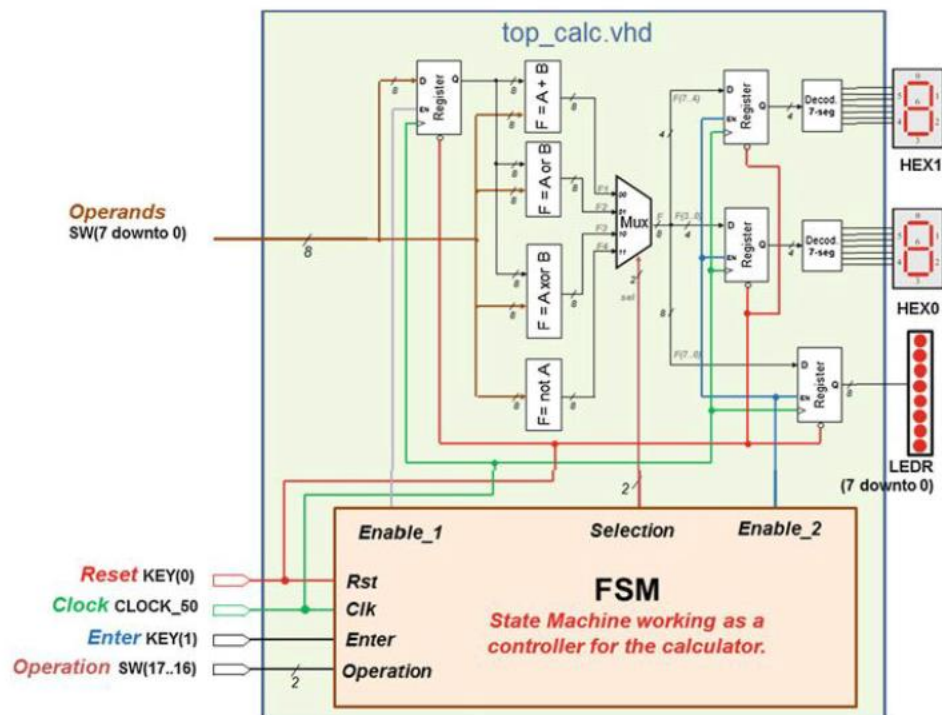

Figure 1. block diagram for the final design.
8. Complete the top_calc.vhd to wire the components, inputs, outputs and the internal signals as illustrated on Figure 1.